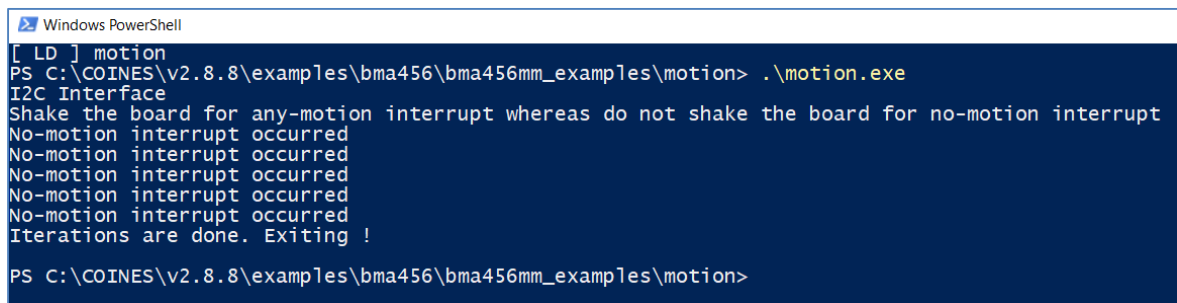

Figure 6 BMA456 no-motion interrupt event
- Type `.\motion.exe` and then press Enter key. Leave the APP3.0 base board and BMA456 shuttle board stationary. After a short while, “No-motion interrupt occurred” will be shown in Figure 6 below to indicate that no-motion interrupt event has happened 5 times.